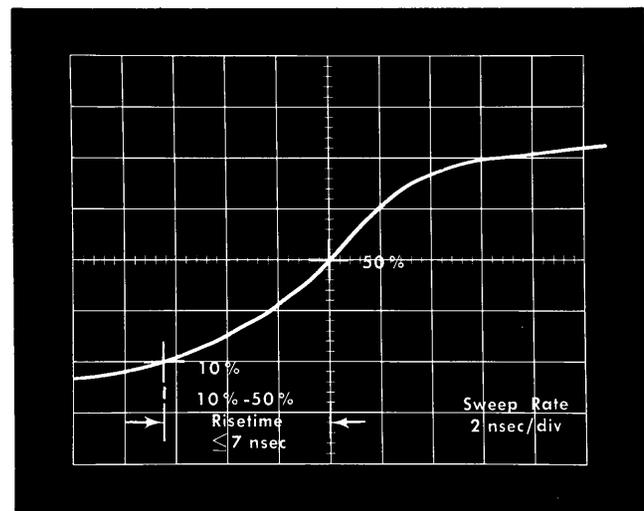

Fig. 5-4. Rise time measurement (10%-50%) of Pretrigger Pulse.
k. Measure the 10% to 50% risetime of the Pretrigger Pulse (see Fig. 5-4). This risetime should be 5 nsec or less.